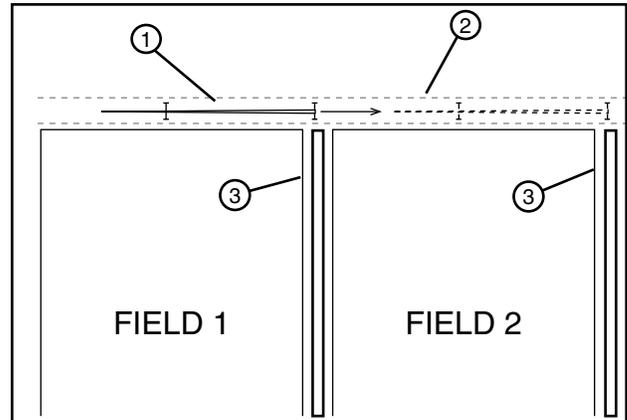

Figure 85-1 1. Machine 2. Tow Lane 3. Cart Path and Ditch
1. Position the machine in the tow lane. See Figure 85-1.